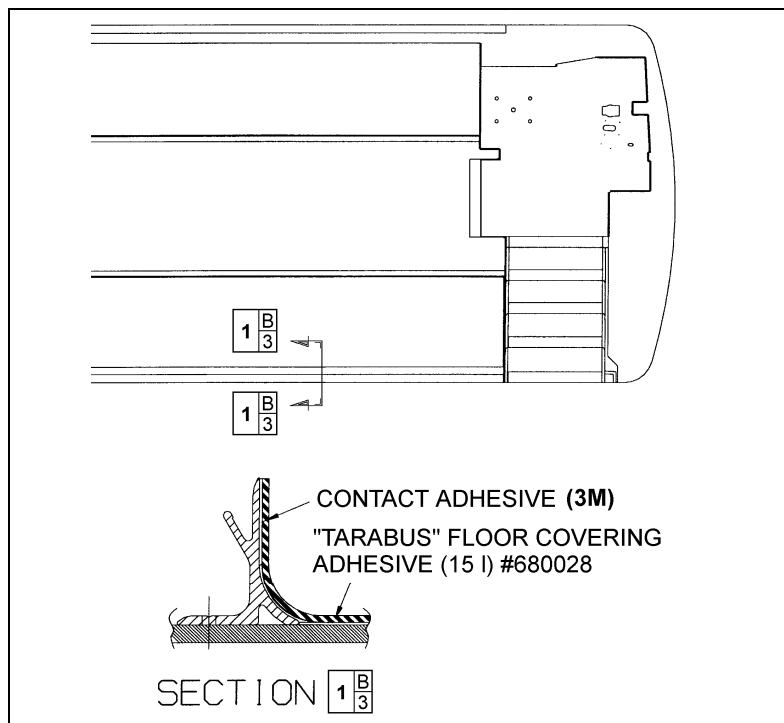

FIGURE 49: TARABUS FLOOR COVERING ADHESIVE APPLICATION
6. Apply floor covering adhesive (680028) onto plywood using a serrated spreader with 1/8-inch serration. If required, apply contact adhesive (3M) (684655 or 684654) onto aluminum molding and also onto section of floor covering, which will be in contact with molding (refer to figure 49).